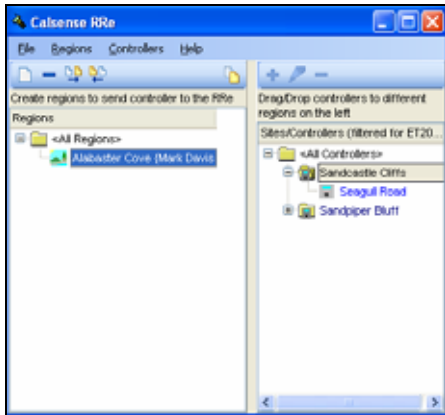

Figure 33.2.9
1. Highlight the region that you want to delete (Figure 33.2.9).